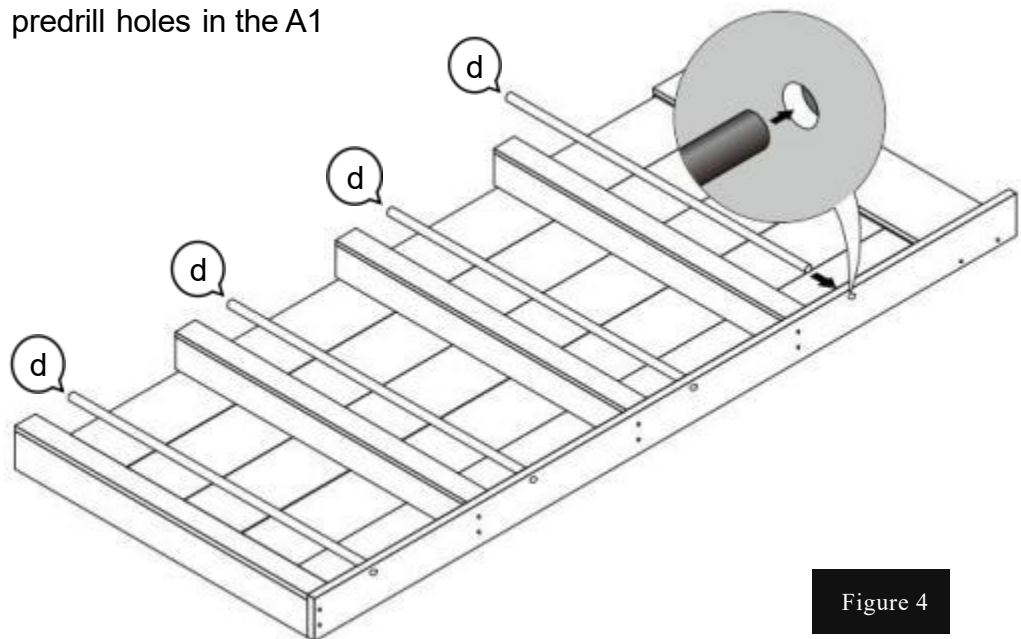

Figure 4
- According to Figure 4, insert 4 pcs of d into the predrill holes in the A1 panel.